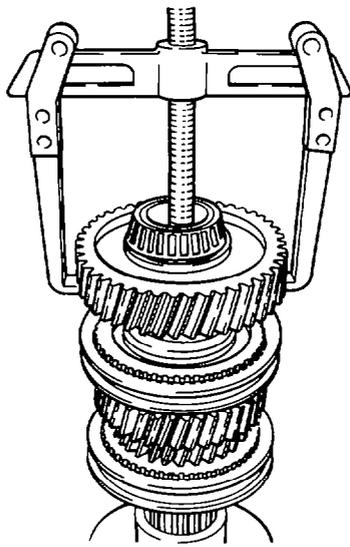

Figure 40 Removing 1st/5th Gear
- (1) Attach soft jaws to a bench vice; clamp the sun-gear (2) on the mainshaft assembly in the vice; remove the bolts securing the thrust plate (26) in position and remove the thrust plate from the assembly.
- (2) Use a suitable puller to remove the 1st/5th speed gear (22) and taper roller bearing (24) from the mainshaft (16) (see Fig 40).